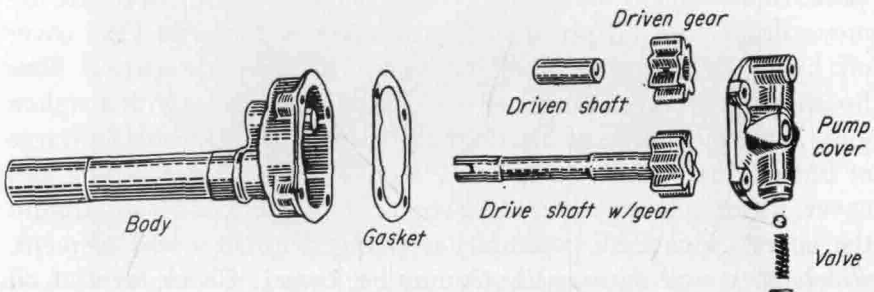

FIG. 12-6. Gear-type oil pump disassembled. (Chevrolet Motor Division of General Motors Corporation)
- c. Detach from the oil pump the line that was connected to the block. Then remove cover-attaching screws, cover, and gears (Fig. 12-6). Remove the oil-pump inlet screen.